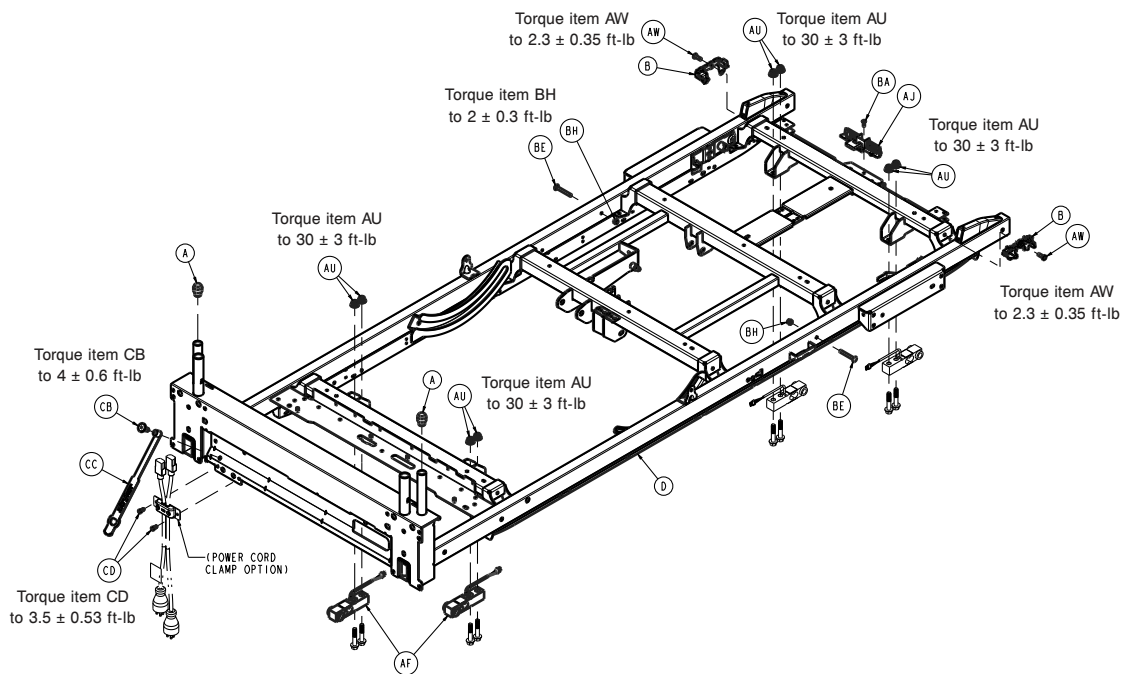

Figure 48 – Replacing the load cell
7. Unplug the load cell (AF) (Figure 48).